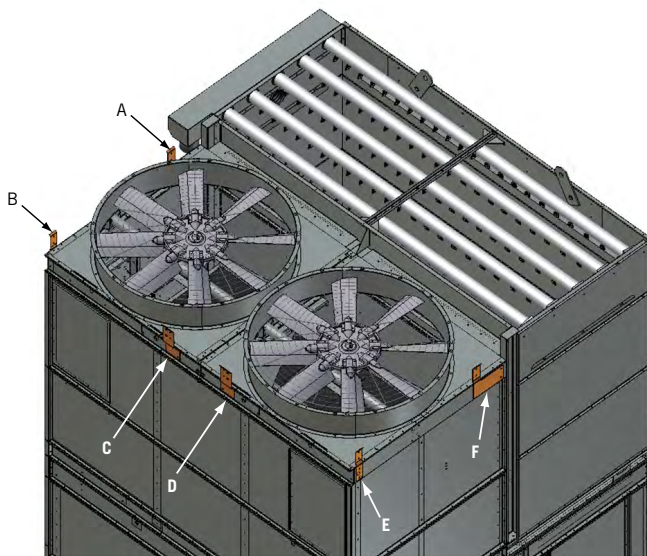

Figure 22. Position of Discharge Sound Attenuation Clips
1. Verify clips are factory installed as shown in **Figure 22** and **Table 4**.